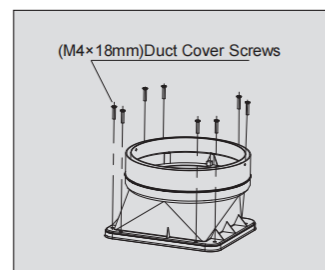

Fig.2
3.As shown in Fig. 2, use 8(M4 \times 18mm) outlet housing screws to fix the outlet housing and sealing ring on the top of the main body.